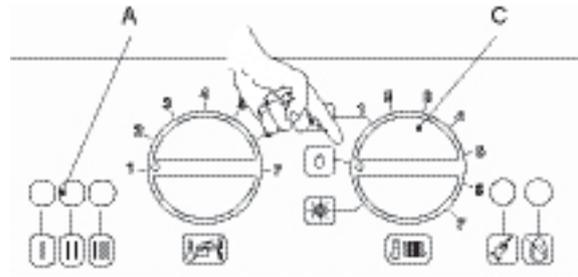

Figure 5.5
- To turn the boiler off set the function selector C to the position shown in the Figure 5.5.